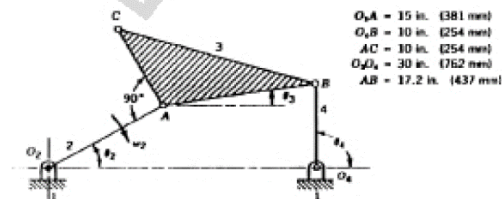

FIGURE 2.56
2.31. For the linkage of Fig. 2.56, construct a table showing the angles  $\theta_2$  and  $\theta_4$  as a function of  $\theta_1$  for  $10^\circ$  increments of  $\theta_1$  from  $0^\circ$  to  $360^\circ$ . Clearly indicate those values of  $\theta_1$  for which the mechanism will not assemble.